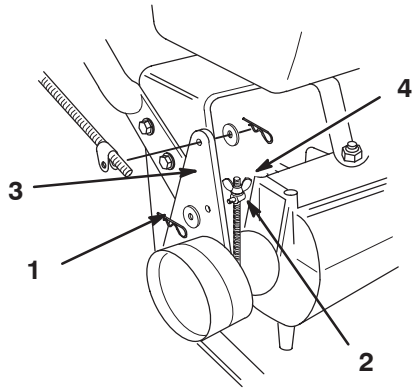

Figure 38
3. Remove the cotter pin and washer from the brake lever (Fig. 38).
4. Rotate the wing nut so the trunnion smoothly slides into the brake lever (Fig. 38).
5. Secure the trunnion to the brake lever with the washer and cotter pin (Fig. 38).